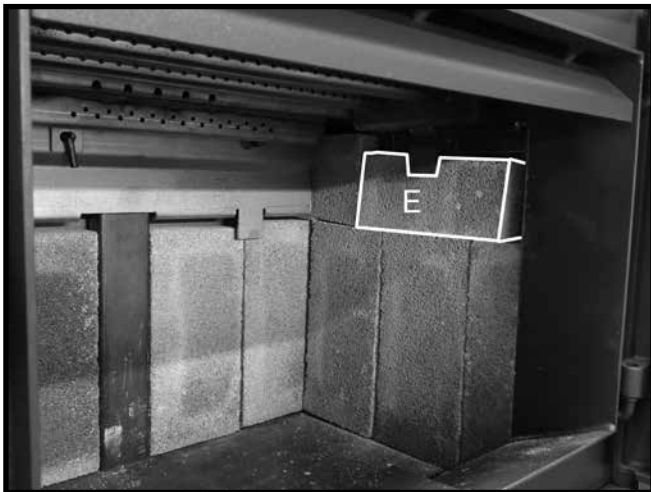
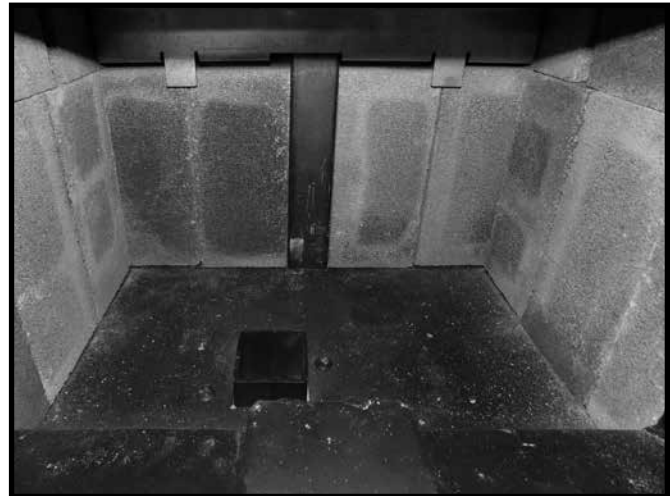

Figure 33: Final side wall firebrick in position.
Figure 34: Firebox floor with ash dump.
7. Slide an "E" firebrick under the side wall brick rail tab and rest on top of the three previously placed side wall firebricks (Figure 33). Repeat steps 4-7 on the other side (Figure 34).